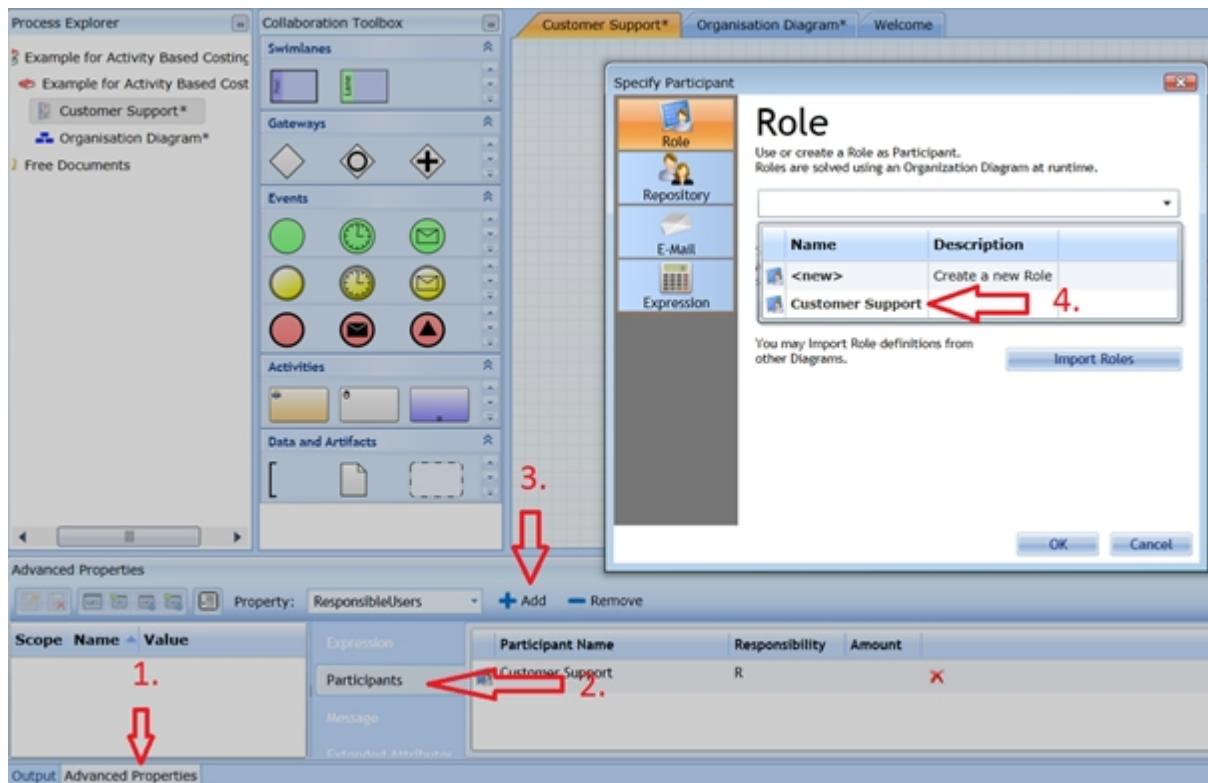

Figure 6: Adding participants
- Add the role Customer Support as participant (figure 6)